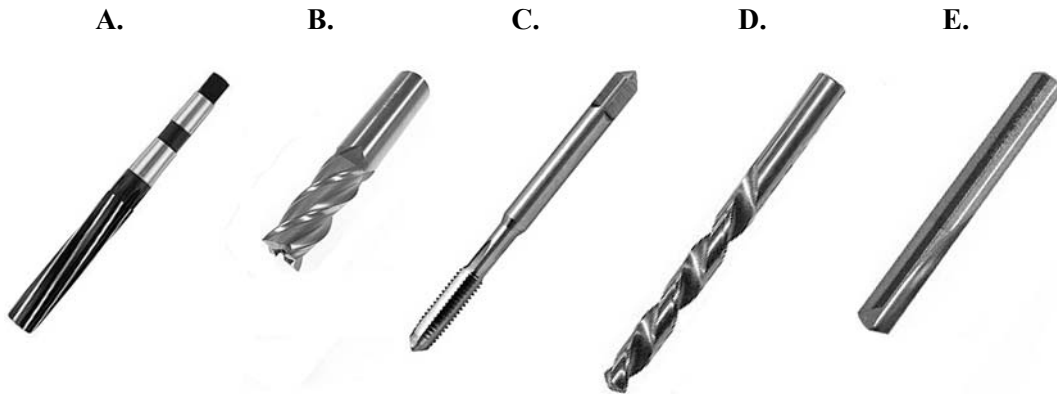

Figure 4
g. The holes in the machine vice base will be marked out using the tool shown in Figure 4.
h. What is the main advantage of using the tool shown in Figure 4 instead of a rule and square? 1 mark